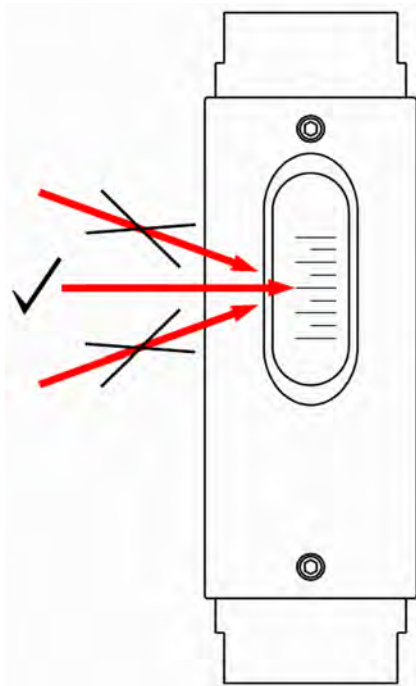

Fig. 34: Reading-off the measuring scale
2.  To obtain greatest reading accuracy, read-off at eye level. (Fig. 34, middle arrow). The read-off value can be falsified by viewing at an angle